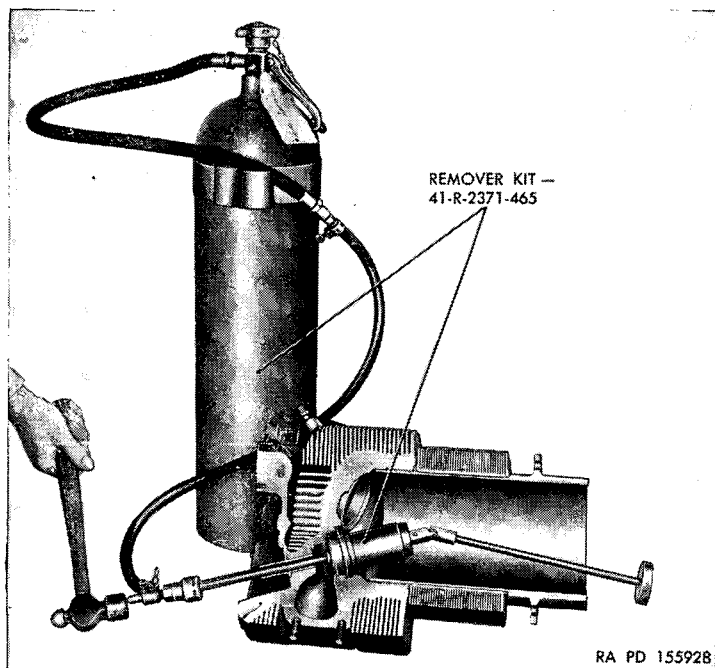

Figure 58. Removing valve (seat) inserts with remover kit.
- (b) To remove a valve (seat) insert, place the proper size collet on the collet arbor. Screw the cone expander into the arbor. Connect the hose furnished with the kit to a CO₂ cylinder. Arrange it so the quick detachable fitting may be attached to the extension tube of the collet without delay. Heat the cylinder, in a furnace, to between 450° and 500° F. If a furnace is not available, the insert part of the cylinder may be heated with a blow torch. When the cylinder is heated, immediately insert the collet assembly into the valve (seat) insert from the open end of cylinder. Seat the collet and expand it to the limit by the handwheel. Attach the hose fitting to the tube extending from the cylinder head. Open CO₂ valve for 10 to 15 seconds to shrink the insert. Strike the extension on the gas fitting with a hammer to dislodge the insert. Detach the gas fitting. Withdraw the insert while still on the collet. Figure 58 shows the arrangement for removal.